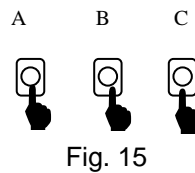

Fig. 15
- 8) When the temperature has stabilized, press the three service buttons (**A&B&C**) together in order to memorize the value (fig. 15); the oven will confirm the storing with a long beep